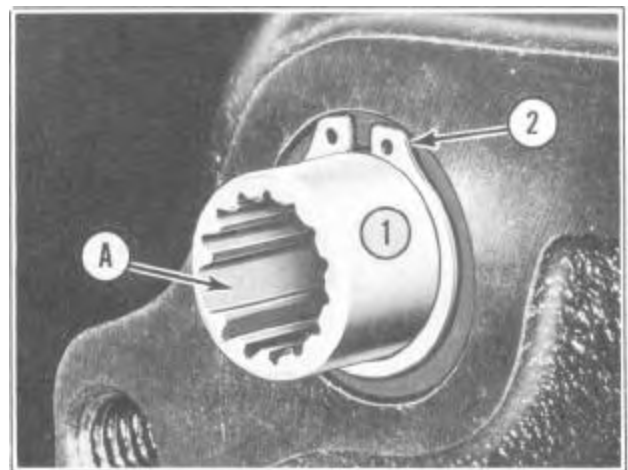

FIGURE 133
1. With the mainshaft assembly removed, remove the snap ring (1), Figure 133, from the toggle shaft sleeve (2), using Snap Ring Pliers J-4880.
3. Install the snap ring on the toggle shaft sleeve, Figure 133.